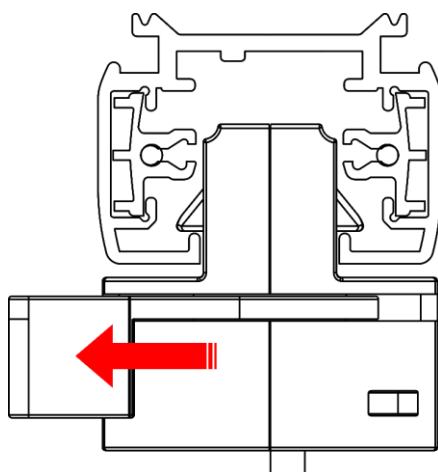

Fig. 12
- 04) Turn the **track lock (06)** counterclockwise to unlock the device (see Fig. 12).